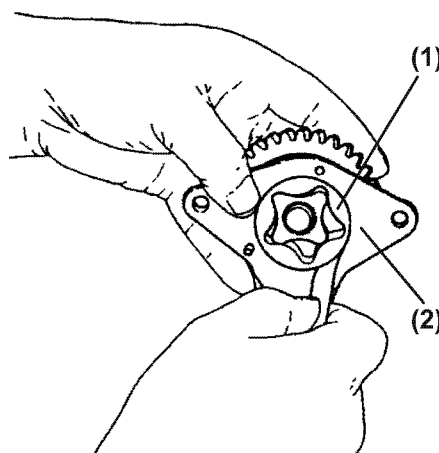

Figure 9-5
Inspect the outside diameter clearance of the outer rotor. To inspect this, insert a feeler gauge between the outer rotor (Figure 9-5, (1)) and the lubricating oil pump body (Figure 9-5, (2)).